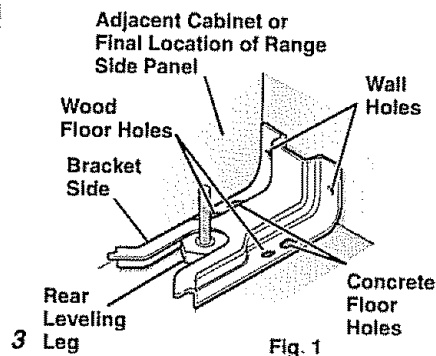

Fig. 1
- Use the bracket as a template and mark 2 hole positions on the wall and 2 hole positions on the floor. Use either the wood or concrete floor set of positions, depending on your floor type. See Fig. 1.
- A. Complete the installation of the range per the installation instructions provided with it. Be sure to install the range so that its rear leveling leg slides beneath the **ANTI-TIP** bracket. See **Fig. 1**
- B. Check if the **ANTI-TIP** bracket is installed and engaged properly. Remove the kick panel or storage drawer and inspect the **REAR LEVELING LEG**. Make sure it fits securely into the bracket slot. See **Fig. 1**